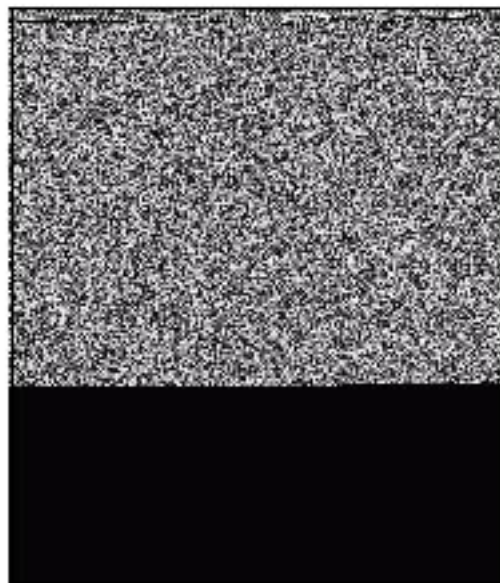

Fig. 115
10. Remove pilot jet ([A] Fig. 115).